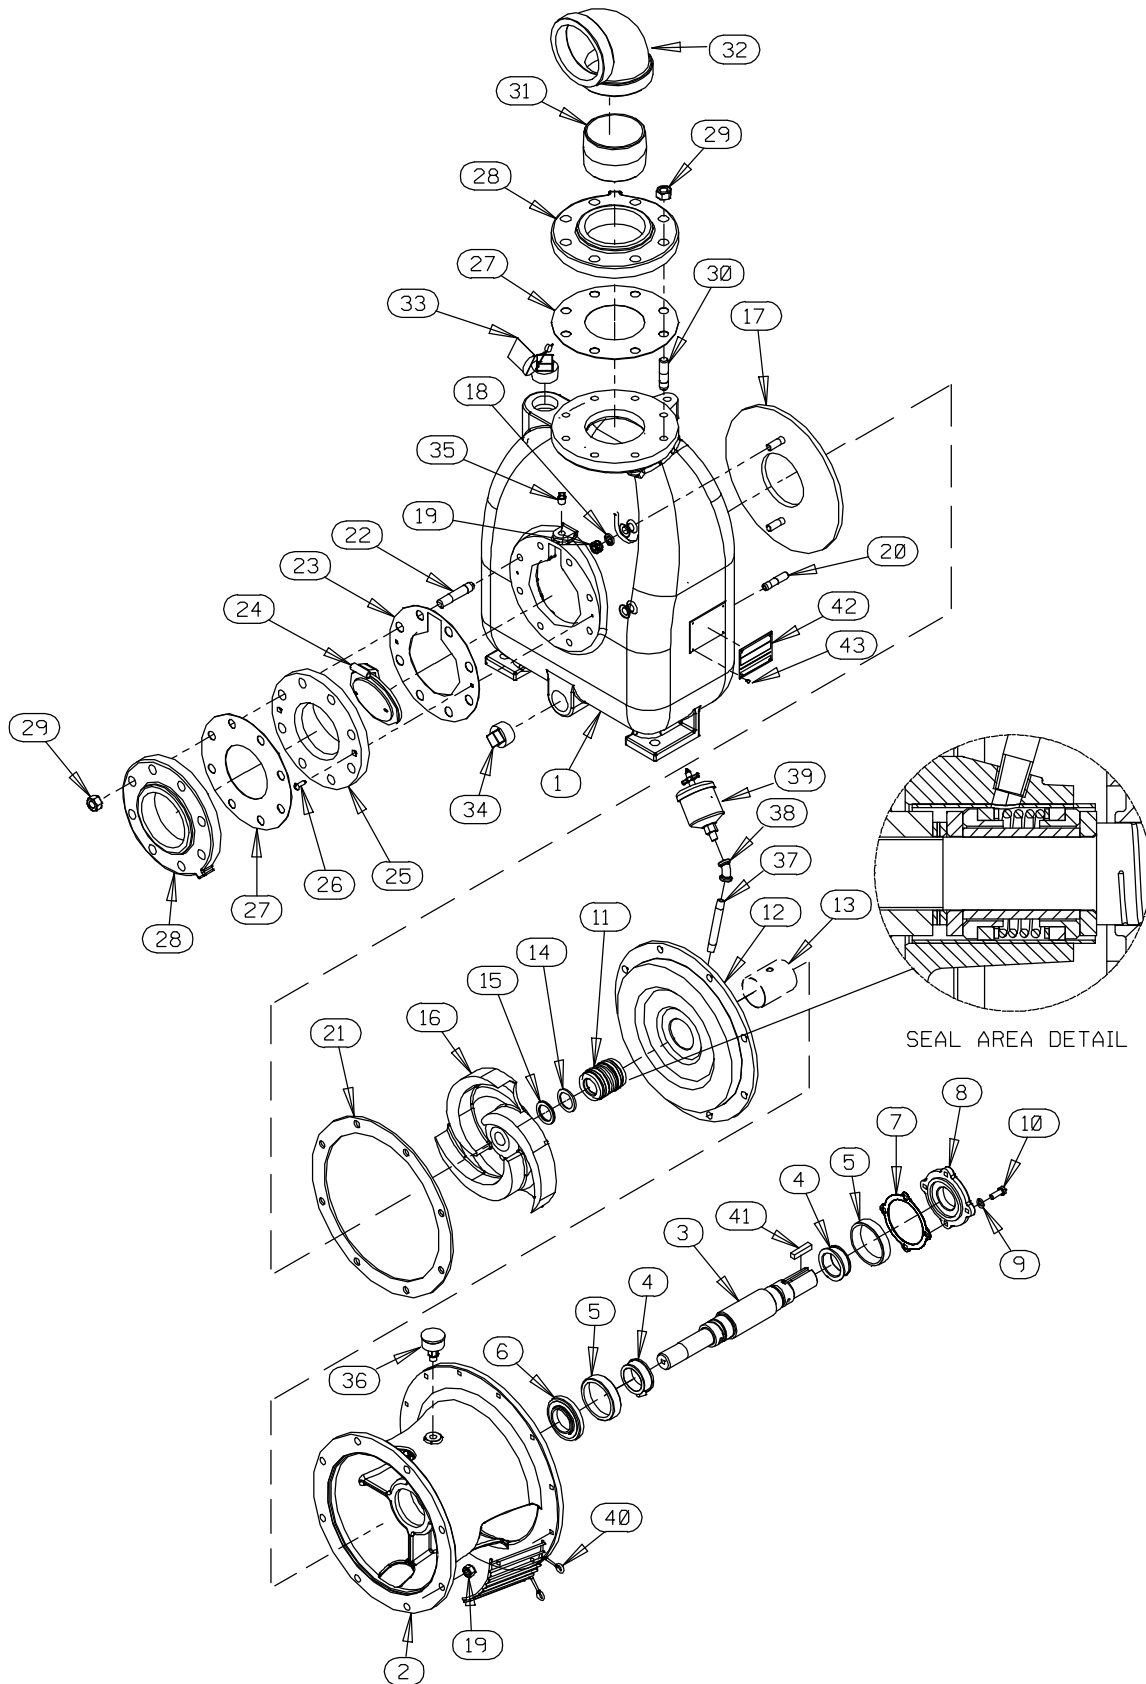

Figure 3. 84A2-(SAE 4/10) Pump End Assembly
(Figure 3)
Disengage the hardware (6 and 7) securing the drive assembly to the intermediate and remove the intermediate guards (40, Figure 3). Separate the pump end and drive assembly from the engine by pulling the pump end straight away from the engine.
As the assemblies separate, the flexible portion of the coupling assembly (3) will remain on the shaft. To remove the coupling from the shaft, unscrew the two allen head setscrews from the bushing (2). Screw one of the setscrews into the puller hole on the circumference of the bushing. As the coupling and bushing separate, remove the bushing, and slide the coupling off the shaft. Remove the shaft key (41, Figure 3).
(Figures 3 and 5)